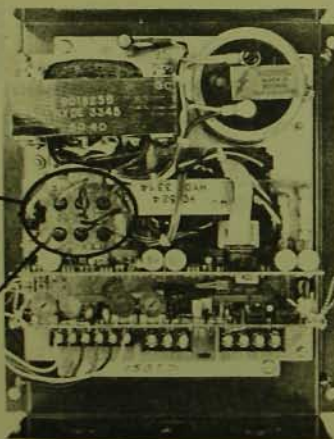

FIGURE 14
10.2 continued Input fuses blow on start-up	<p>10.2.1 continued Parametrics Technical Support for further troubleshooting assistance.</p> <p>10.2.2 If 150 ohms is measured on the ohmmeter in Section 10.2.1, refer to Figures 14 and 14A.</p> <p>Disconnect the six wires labeled A, B, C, D, E and F. Move these six wires aside, exposing the six connectors on the power module. With an ohmmeter, on the RX100 scale, measure from terminal A to terminal B of the power module (not the wires which were removed).</p> <p>Observe the reading, reverse the test probes and measure again. Reading should be infinite in both directions. If any other reading is indicated, replace the power module.</p> <p>If reading from terminal A to terminal B is correct, measure from terminal E to terminal F. Observe reading, reverse the test probes and measure again. Readings should be typical of a diode, infinity in one direction and approximately 500 ohms with the probes reversed. If any other reading is indicated, replace the power module.</p> <p>If readings from terminal E to terminal F are correct, measure from terminal A to terminal F and from terminal B to terminal F. Reading should be infinite in both directions. If readings other than infinite are observed, replace the power module.</p>
10.2 continued Input fuses blow on start-up	10.2.3 If above readings are observed, replace wire connections to terminals A, B, E and F (reference Figure 14). Do not connect the center green wires to terminals C and D at this time. Be sure these wires cannot touch any conductive surface. Replace blown input fuses and apply input power.
10.8.1 continued "Shear Pin" LED is illuminated. NO MOTOR CONNECTED TO TB3.	<p>10.8.1.3 continued reading should be infinite in both directions. Measure from terminal 2 to terminal 3 of TB3. Again reverse the leads and measure again. This measurement should also be infinite in both directions.</p> <p>If any combination of terminals measures a resistance other than infinite, be sure that AP6 has been disconnected, replace the transistor module as follows:</p> <ol style="list-style-type: none"> Refer to Figure 16. Remove the plug-in Control Module, by grasping the plastic tie-wraps in each corner and pulling straight out. Remove the ribbon cable connected to AP1 on the driver module. Remove the plug-in driver module by grasping each corner firmly and pulling it straight out. Disconnect connectors AP4, AP5, AP6 and AP7 from the motherboard. Refer to Figure 14 and remove the six (6) Power Module connection wires. Remove any wires connected to TB1, TB2 and TB3. Remove input fuse F1 exposing a motherboard connection screw. Remove the 6-32 mounting screw along with the remaining 4 mounting screws. Remove the motherboard.